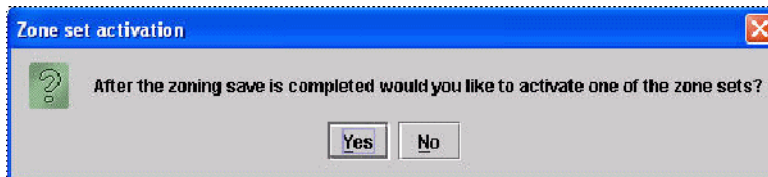

Figure 7-60 Zone set activation window
20. Select **Yes** to activate your zone set(s) (Figure 7-60) once the save is complete. You should select **No** if you are not prepared to activate the zone set.